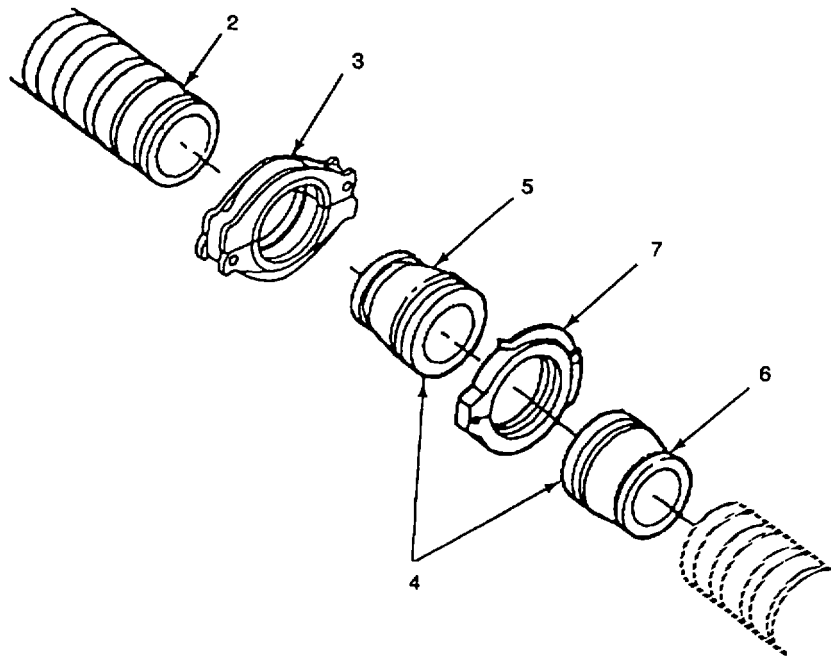
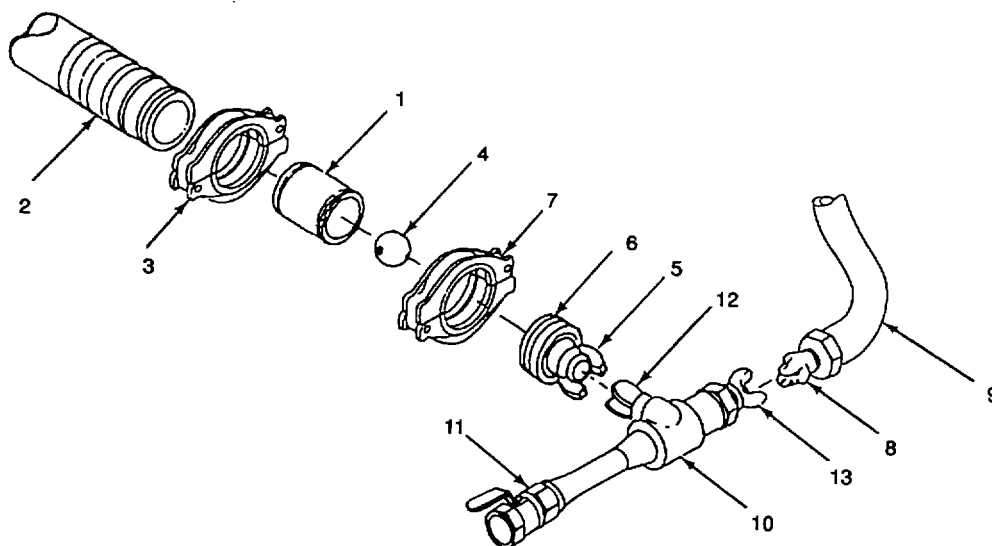
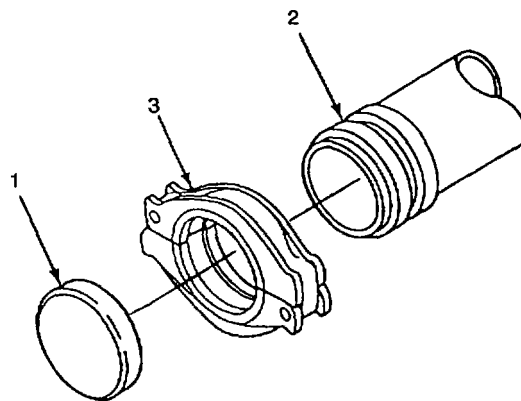

Figure 2-33. Ball Receiver
Figure 2-34. Displacement Ball
Figure 2-35. End Cap
- (1) Remove 6-inch boltless coupling (para. 2-8.c.) connecting end of hoseline segment to next downline hose segment (or swivel joint).
- (2) Separate two hoseline segments (or hoseline segment and swivel joint).
- (3) Locate ball receiver (4, Figure 2-33), consisting of two 8 X 6 inch reducers (5 and 6, Figure 2-33). One reducer has been modified to prevent displacement ball from being ejected from ball receiver.
- (4) Connect 6-inch end of unmodified reducer (5) to downline end of first hoseline segment (2) using grooved-end pipe boltless coupling (3) (para. 2-8.b.).
- (5) Locate 8-inch snaplock coupling (7). Open coupling.
- (6) Fit halves of snaplock coupling (7) over joined ends of reducers (5 and 6). Close coupling (7) over reducer (5 and 6) ends. Lock snaplock coupling (7).
- (7) Connect nipple (1, Figure 2-34) to upline end of first hoseline segment (2) using boltless coupling (3) (para. 2-8.b.).
- (16) Shut off compressor when displacement ball (4) reaches receiver (6, Figure 2-33).
- (17) Open snaplock coupling (7) connecting two reducers (5 and 6). Pull snaplock coupling (7) back and separate two hinged coupling halves of snaplock coupling (7). Set snaplock coupling (7), displacement ball (4, Figure 2-33), and modified reducer (6, Figure 2-34) aside.
- (18) Remove boltless coupling (3) (para. 2-8.c.) connecting unmodified reducer (5) to hoseline segment (2).
- (19) Locate end cap (1, Figure 2-35). Connect end cap (1) to end of hoseline segment (2) with boltless coupling (3) (para. 2-8.b.).
- (26) Connect end cap (1, Figure 2-35) to hoseline segment (2) using boltless coupling (3) (para. 2-8.b.).
(27) Repeat steps (1) through (25) (omitting steps (9) through (13)) for each hoseline segment down the line.
(28) When a hoseline length has been evacuated, collapsed, and capped, it is ready for packing in a tricon box.
(29) When a swivel joint is removed, return it and one 6-inch boltless coupling to lead pumping station installation site.